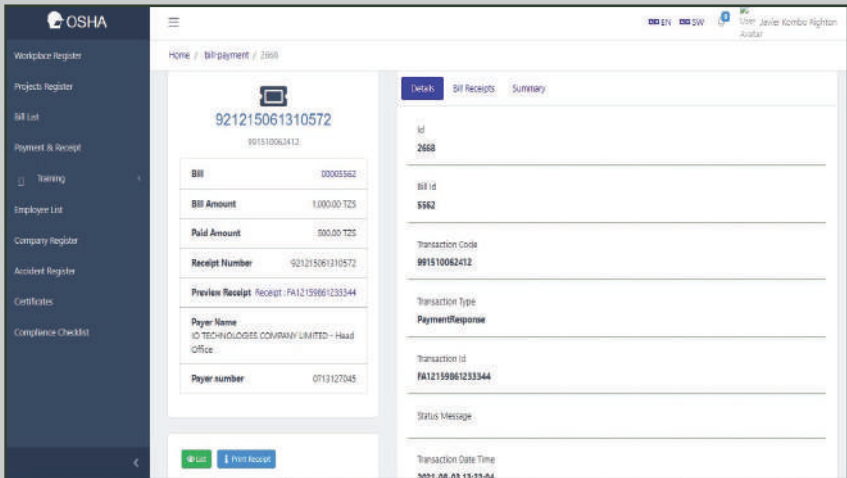

Figure 45: Viewing payment particulars page
- ii) On Clicking View button, system loads payment particulars for respective bill including option to print receipt as shown in Figure 45.